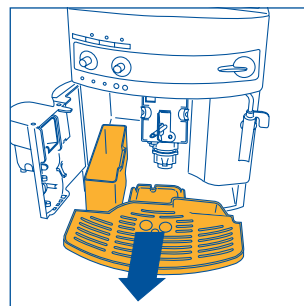

Fig. 16
NOTE 7: the machine counts the number of cups of coffee made. Each 14 single cups (or 7 double cups), the  light switches on steady (chap. 12 point 3), warning the user that the grounds container is full and must be emptied and cleaned. Until the grounds container has been cleaned, the light will remain on and the machine cannot deliver coffee. To clean the container, open the service door on the front (pulling the handle, Fig. 15), the  light flashes (see para 12 point 9); remove the drip tray (Fig. 16), empty and clean. Empty and carefully clean the grounds container, making sure to remove all the residues that may be deposited on the bottom. Also dry the any drops of condensate that may have formed inside the machine under the drip tray. **IMPORTANT: when removing the drip tray, the grounds container MUST be emptied, even if it is not completely full. If this is not done, when next making coffee the grounds container may fill over the maximum level and block the machine with lumps of coffee grounds.**
- remove the drip tray and the grounds container (Fig. 16) and clean them;